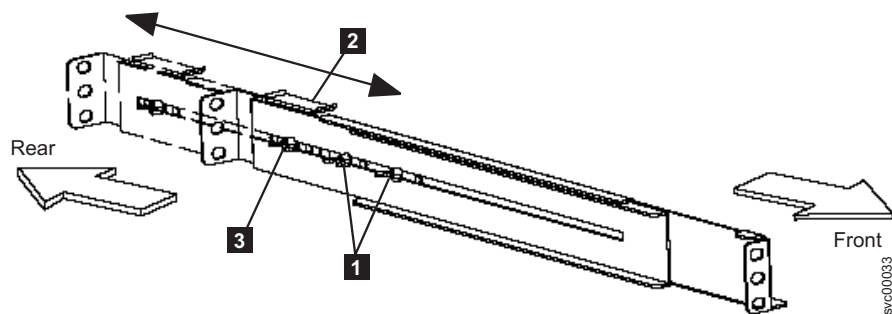

Figure 244. Adjusting the rail depth on the 2145 UPS-1U
- Loosen the assembly wing nuts (**1** in Figure 244) on both rail assemblies and adjust the rail size to the depth of your rack.
- Position the rear, hold-down bracket (**2** in Figure 244) towards the end of the rail assemblies and tighten the wing nut (**3** in Figure 244).